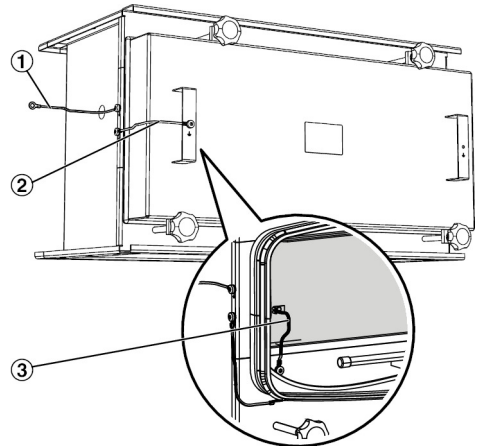

Fig. 2: Earthing connection
*Connect the filter casing to the equipotential bonding of the building via the earthing cable (Fig. 2/1). When operating the explosion-proof filter, all earthing cables must be installed, as shown in Fig. 2.*
*KSFS-...-Ex: Remove the earthing cable from the filter chamber cover (Fig. 2/2).*
KSFS-...-Ex: Connect the earthing cable to the filter element with the blade connector (Fig. 2/3).
KSFS-...-Ex: Mount the earthing cable from the filter chamber cover (Fig. 2/2).
KSFS...-Ex: Remove the earthing cable from the filter element (blade connector Fig. 2/3).